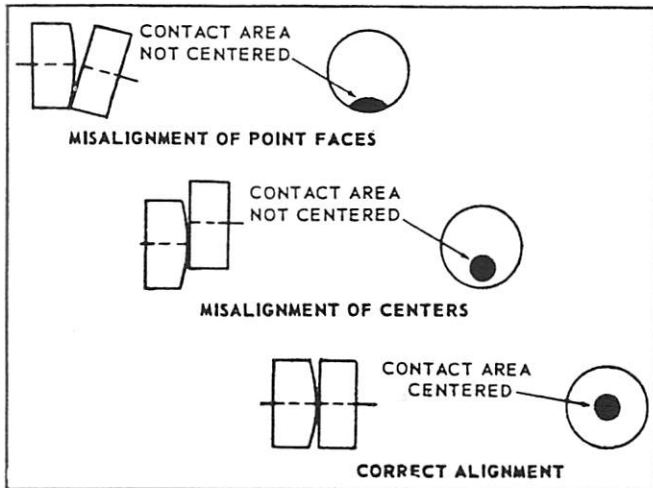

Figure 7. Point Alignment
- Check breaker point alignment. Breaker assemblies are prealigned at the factory; however, if points are not properly aligned, as shown in Figure 7, bend or twist FIXED CONTACT POINT ONLY with Breaker Point Alignment Tool (C-91-28883).